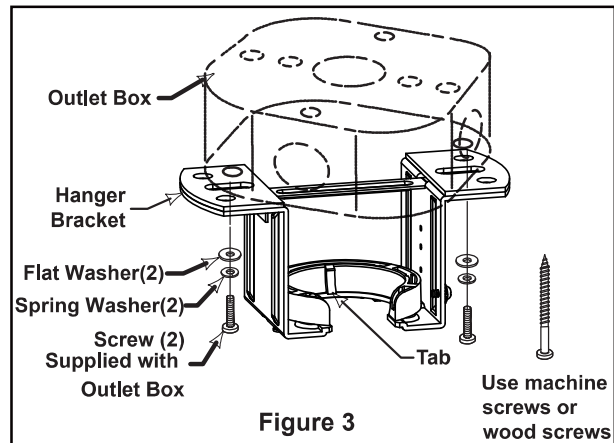

Figure 3
- Securely attach the hanger bracket to the outlet box using the outlet box screws and washers supplied with the outlet box. (Figure 3)